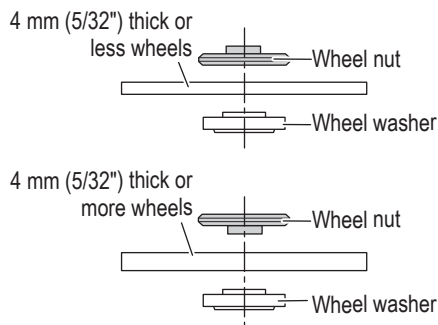

Fig. 21
- (1) Turn the disc grinder upsidedown so that the spindle is facing upward.
- (2) Align the oval-shaped indentation of the wheel washer (E) with the notched part of the spindle, then attach them.
- (3) Fit the protuberance of the abrasive cut-off / diamond wheel onto the wheel washer (E).
- (4) Screw the wheel nut onto the spindle. The direction for mounting the wheel nut varies by wheel thickness. (Fig. 21)